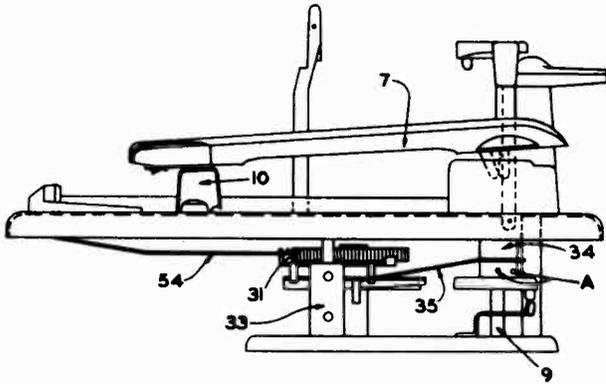

Fig. 3
2. Set the Record Shelf (4) to the 10" position.
4. Be sure the notch in the Pickup Arm Raising Disc (36) engages the Pickup Arm Raising Lever (37).
5. The No. 8 Bristol set screws "A" of the Pickup Arm Raising Disc (36, Fig. 3) have pointed ends which fit into off center holes in the Pickup Arm Pivot (9). Alternately loosen one screw and tighten the other until the needle rests above the record lead-in groove at the desired point. Be sure that both set screws are tight when this adjustment is completed.
6. Complete the change cycle of the mechanism and place the pickup arm on the Pickup Arm Rest (10). The tongue of the Pickup Arm Raising Disc (36) should now rest against the post which supports the sub plate assembly. If the pickup arm does not rest in the proper position on the pickup arm rest, bend the tongue closer to or away from this post until the pickup arm is correctly positioned.
The upturned end of the Pickup Arm Pivot Shaft Bracket (Fig. 3) prevents the Pickup Arm from falling off the Pickup Arm Rest. There should be  $\frac{1}{64}$ " clearance between the tongue of the Pickup Arm Raising Disc (36) and the bottom of the groove